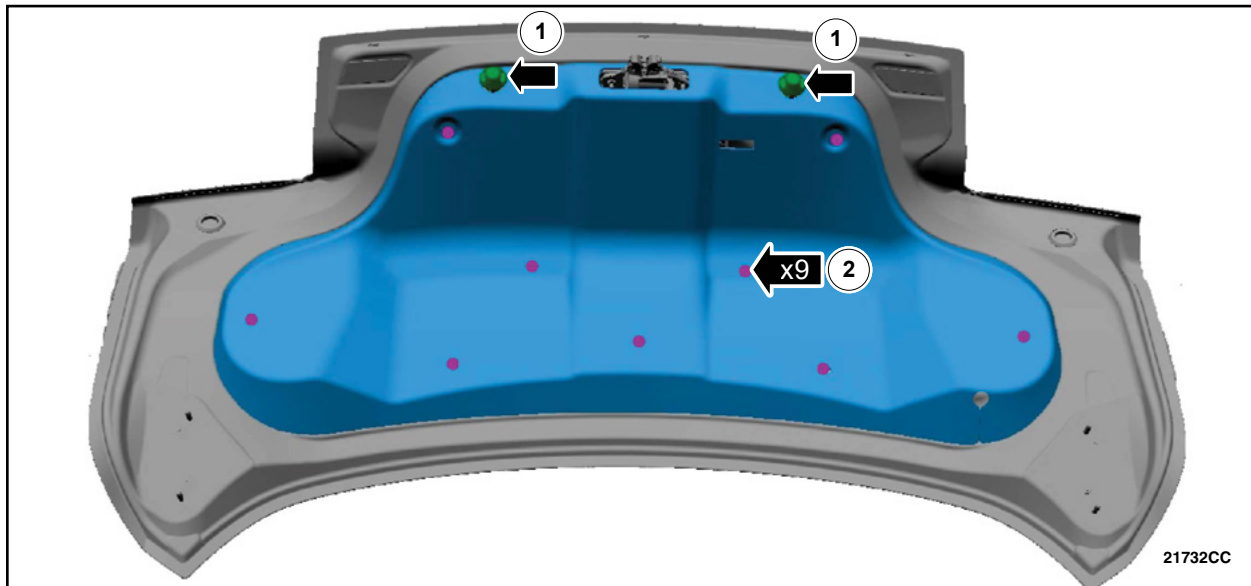

FIGURE 4
7. Remove luggage compartment lid trim panel. See Figure 4.